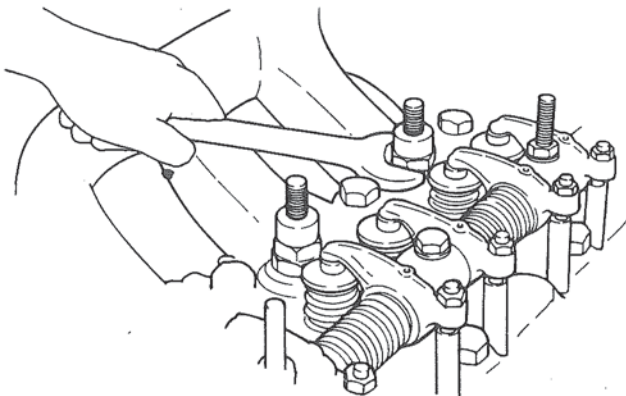

Figure 15. Removing Nozzle Holders.
1. Remove nozzle holders. Figure 15. Use Special Tool No. MH060011 nozzle holder wrench.